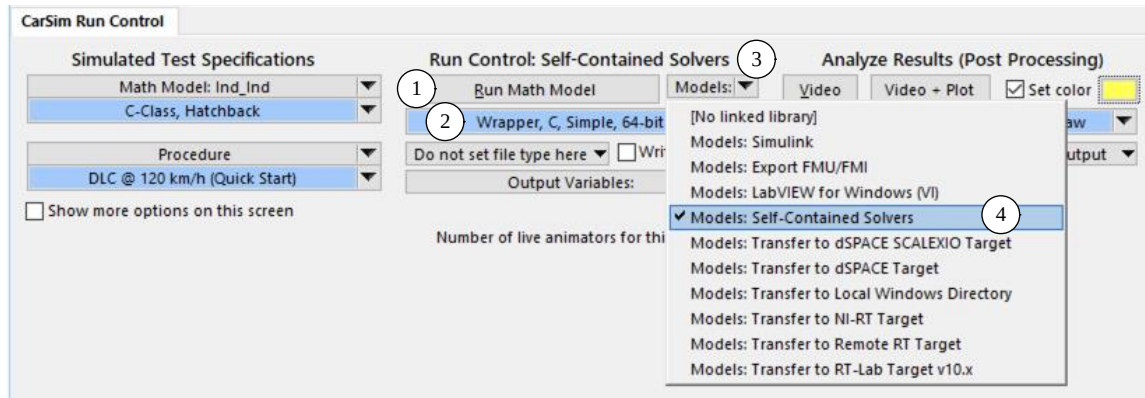

Figure 17. Link to the library Models: Self-Contained Solvers.
As described in the tech memo *Automating Runs with the VS API*, the **Run Control** dataset for a simulation made with a wrapper EXE should include a link (2) (Figure 17) to a dataset in the library **Models: Self-Contained Solvers** (4) selected with the **Models** drop-down control (3). With this setup, you can run a simulation by clicking the **Run Math Model** button (1), just as with the built-in VS Math Models.